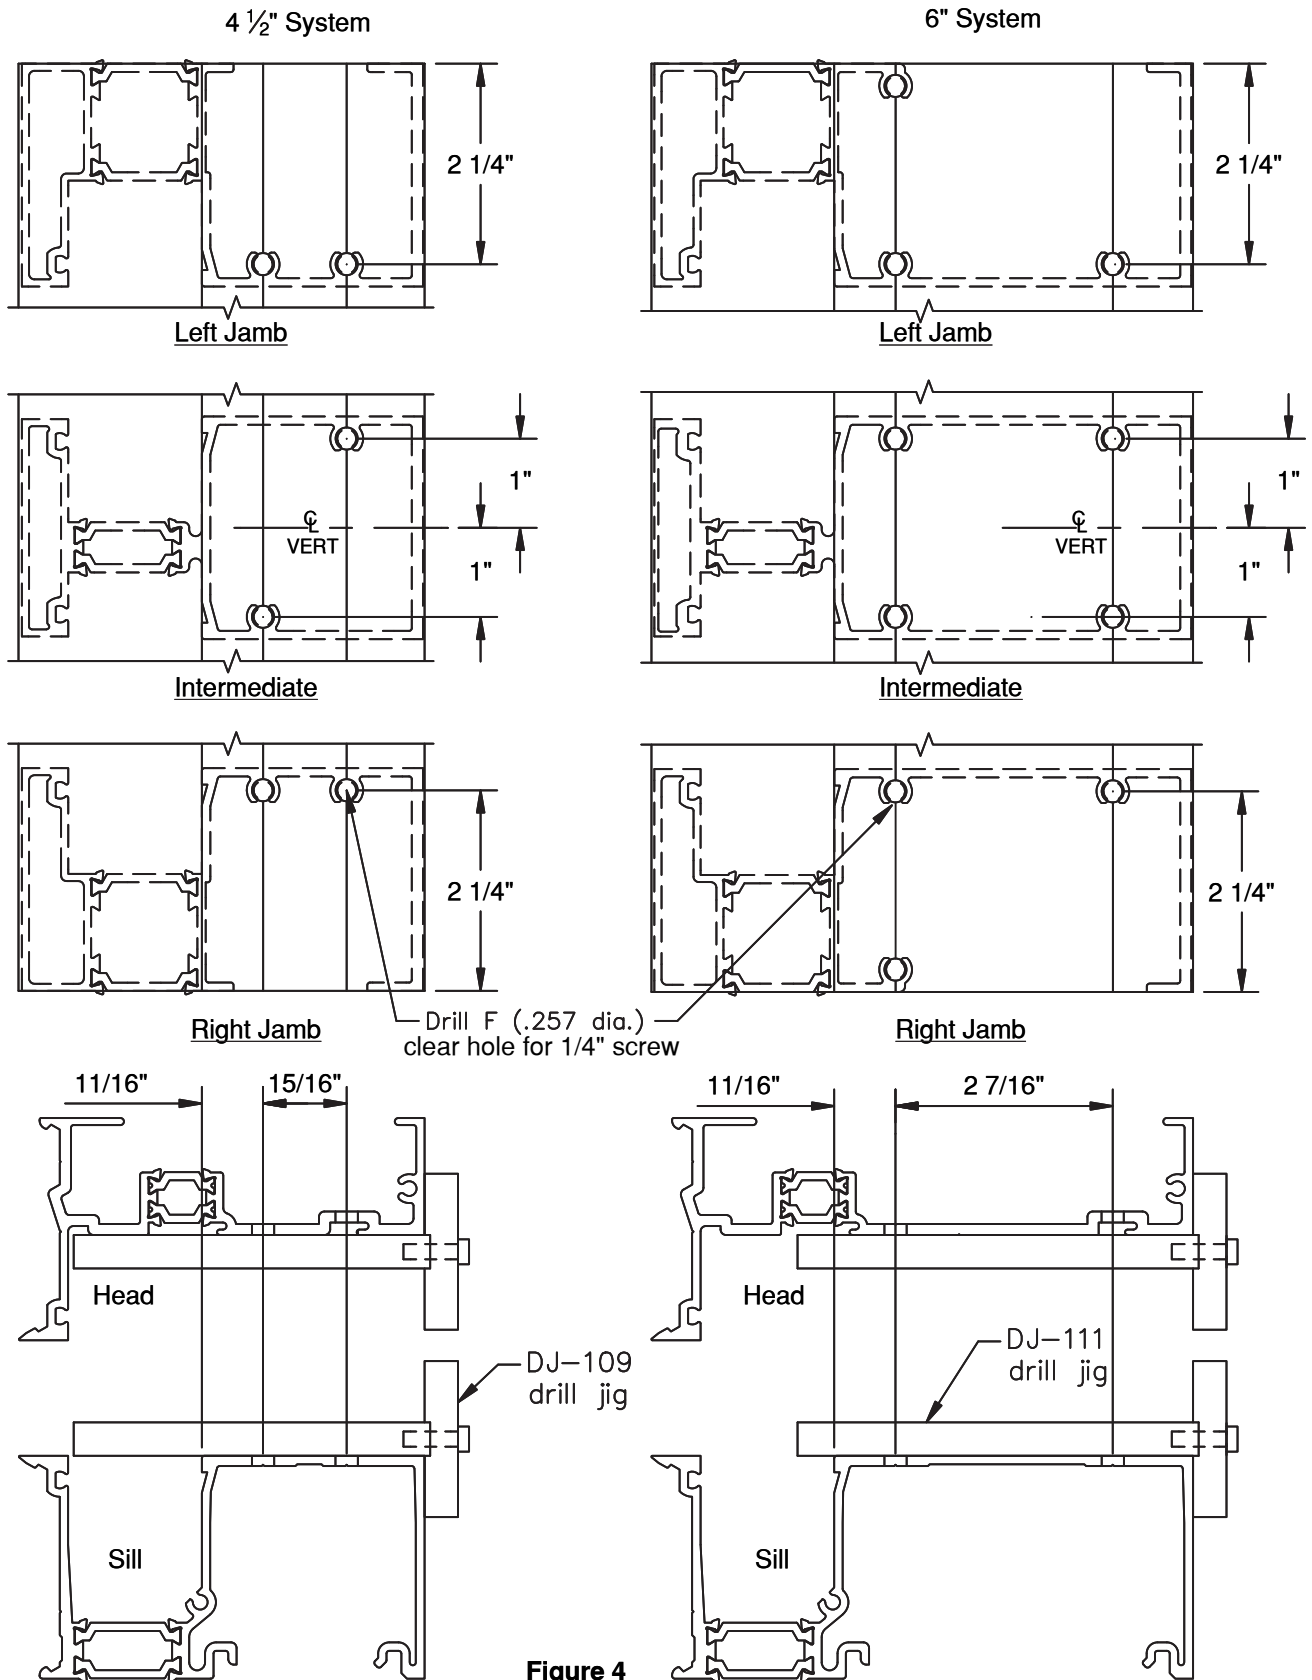

Figure 4
1.3 Fabricate head and sill members for vertical and jamb attachment. **SEE FIGURE 4, page 7.**